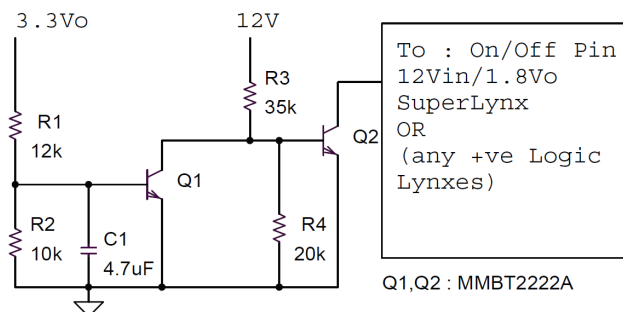
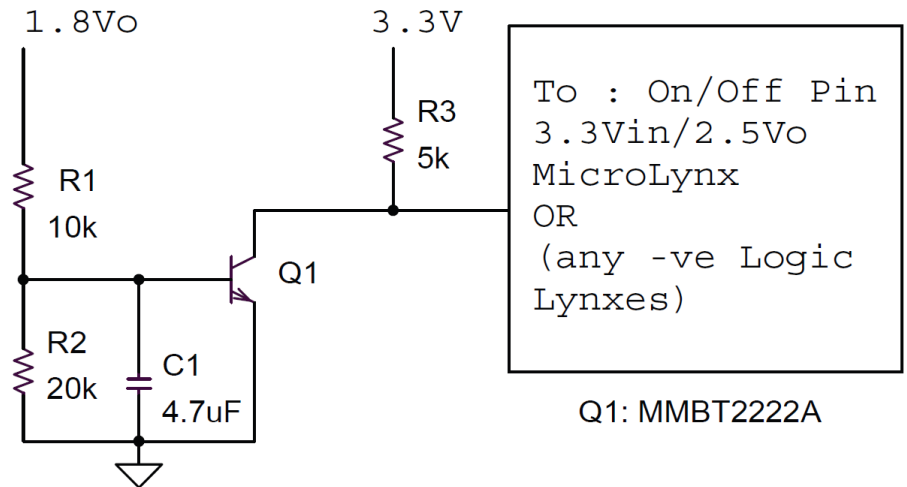

Fig. 3 Turn-on Interface Circuit for 3.3Vo to 1.8Vo SuperLynx (or any +ve LOGIC Devices).
Fig. 4 Turn-on Interface Circuit for 1.8Vo to 2.5Vo MicroLynx (or any -ve LOGIC Devices).
2. The $3.3V_o$ is used as a signal to a time delayed On/Off interface circuit (see Fig. 3) that turns on the $1.8V_o$ unit. The $2.5V_o$ unit remains off.
3. Lastly, the $1.8V_o$ is then used as a signal to another time delayed On/Off interface circuit (see Fig. 4) for the $2.5V_o$ uLynx.
Circuit Details: See Fig. 3 for Turn-On Interface circuit for positive Logic modules and Fig. 4 for negative Logic modules.